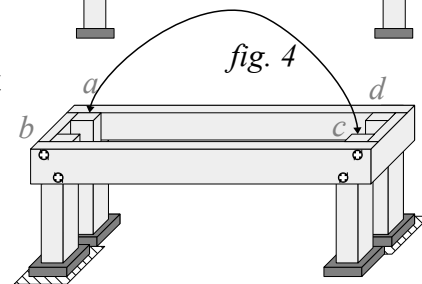

fig. 4
- 7) Test to see if it rocks, which it probably will. If legs *a* and *c* are the ones that rise and fall, skim dirt out from under *b* or *d* until it is stable – fig. 4.